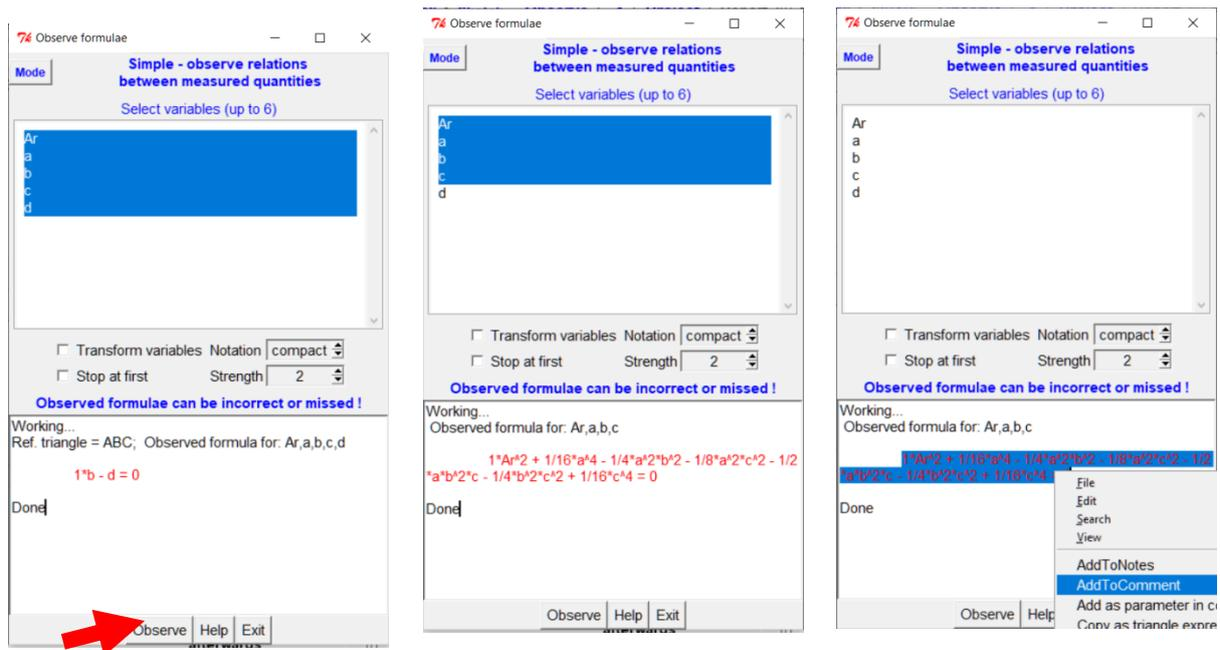

Figure 30
4. OK Geometry looks for a polynomial relation of the lowest degree containing the selected variables. In our case there is a trivial relation $b = d$, which is certainly not of our interest. Therefore we unselect a redundant variable b or d and repeat the observation (Figure 30, centre).
6. To add a further dynamic numerical test for the obtained relation, proceed as follows (Figure 30, right):
The results of the command **Observe formulae** are written in an ordinary text editor. In addition to the common text editor commands, available by a right-clicking on the results area, there are some specific commands (see Figure 30, right). All specific commands refer to the text in block. **So, to use the specific commands, you must first put in block the text on which to apply the command.**